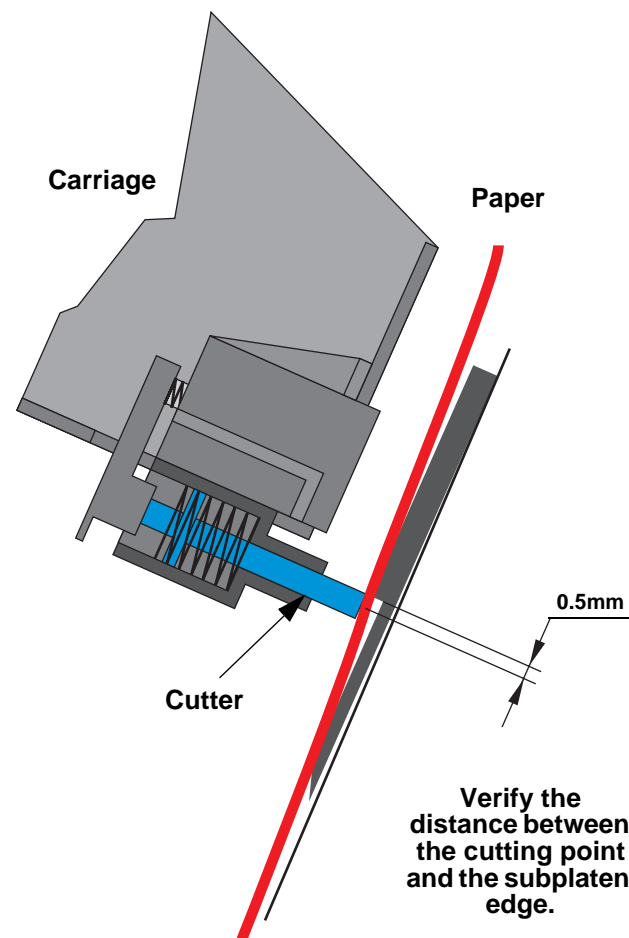

Figure 5-14. Cutter Position Verification
4. Compare the position of the cut line on the paper to the edge of the upper surface of the subplaten, as shown in Figure 5-14.